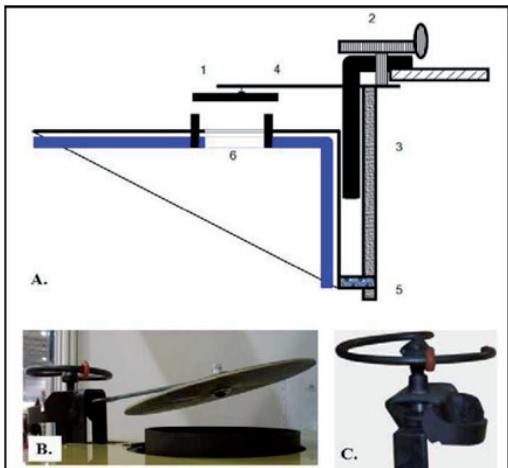

Figure 13
7.3 SETTINGS OF DRAFT REGULATOR (figure 13)
then ignite the boiler (fig. 13 B). When metal and water gets hotter cylinder becomes longer and lowers the valve. When indications of thermometer becomes stable under 80 °C, slightly open the valve by using temperature adjustment bolt (2) if temperature is higher than 80 °C – slightly close it till temperature falls under 80 °C. Later, if the temperature is too low, turn the adjustment bolt so that valve would be lifted, if temperature is too high, turn the bolt to opposite direction closing the valve. Also adjust the marking ring, so that you would know the position of valve (fig.13 C), for example: it is advisable to close the valve when removing ash. We want to remind you that boiler operation temperature must be 70 – 90 °C.